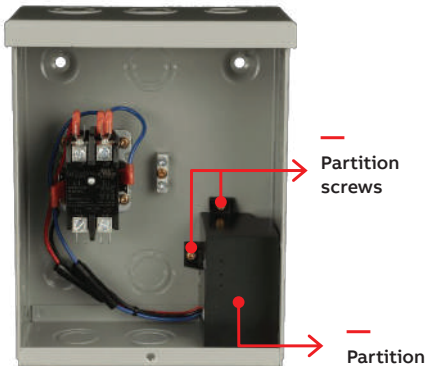

Figure 1\*
- 1- Unscrew the partition screws (Figure 1) and remove the partition.